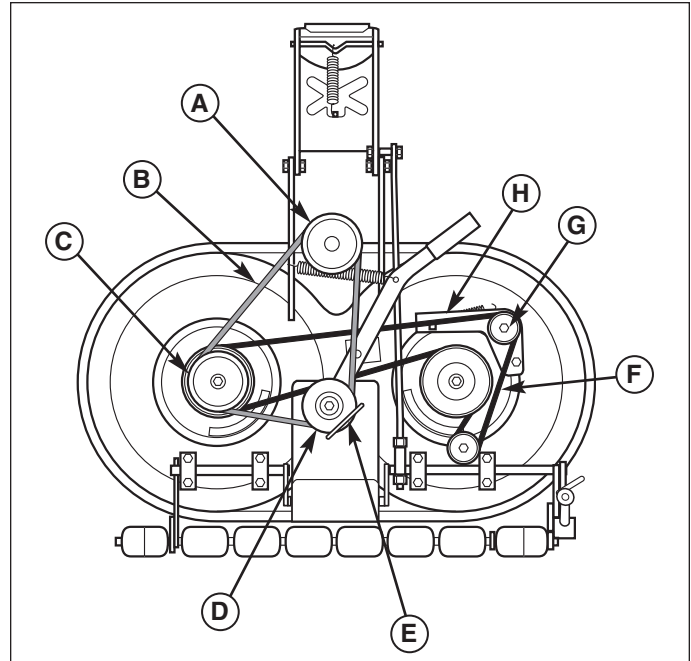

Figure 40. Mower Belts
3. Note the position of the idler pulley belt guide (E, Figure 40). Loosen the idler pulley capscrew and remove the belt from the pulley (D).
4. Install the new belt (B) as shown. When the mower deck is installed on the tractor, the belt wraps around the PTO clutch pulley (A), idler pulley (D) and mower deck drive pulley (C).
5. Return the idler pulley belt guide (E) to its original position and tighten the idler pulley capscrew.
3. Loosen the idler assembly capscrew (G, Figure 40).